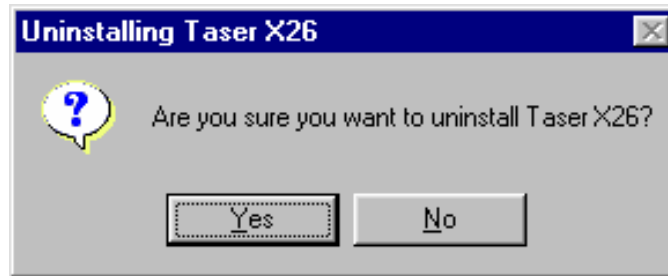

Figure 41
9. Click **Yes** on the **Uninstalling Taser X26** confirmation panel (Figure 41).